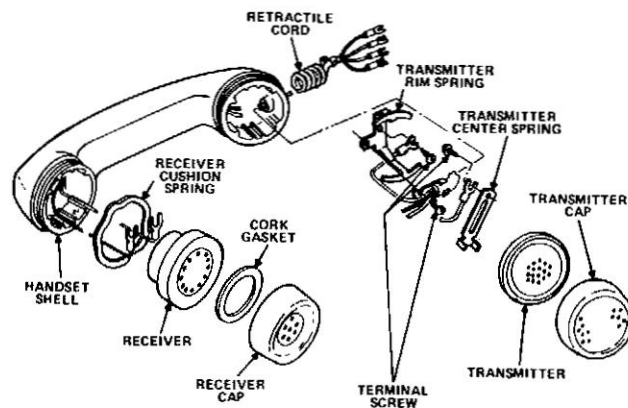

Figure 14. Exploded View of Handset.
4.09 To disassemble the handset, refer to Figure 14 and proceed as follows: